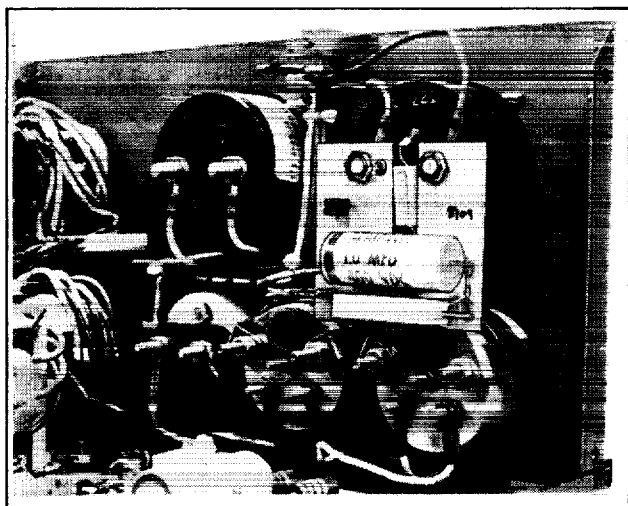

Figure 2. AC Interlock Board
3. Remove AC interlock board from rear of frequency meter located in controller upper cabinet. See Figure 2.